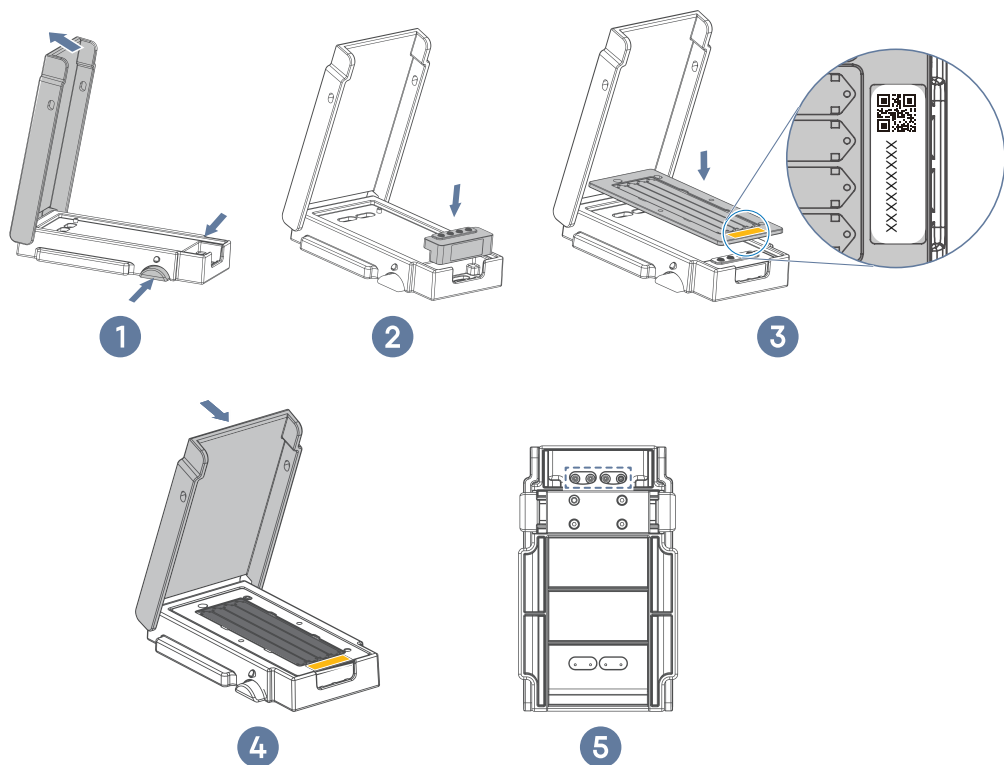

Figure 19 Installing sealing gasket and flow cell
- For the label location on the flow cell, refer to the area marked in yellow in *Figure 19 on Page 66*.